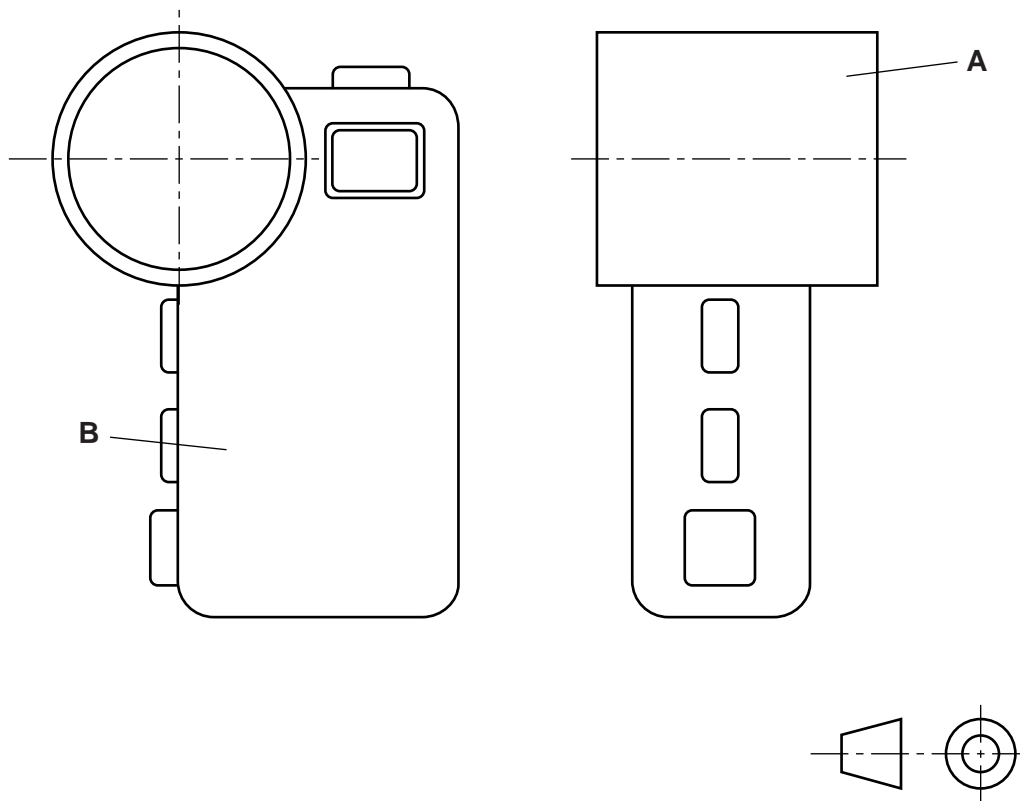

Fig. 6
- 9 Orthographic views of a video camera are shown in Fig. 6.